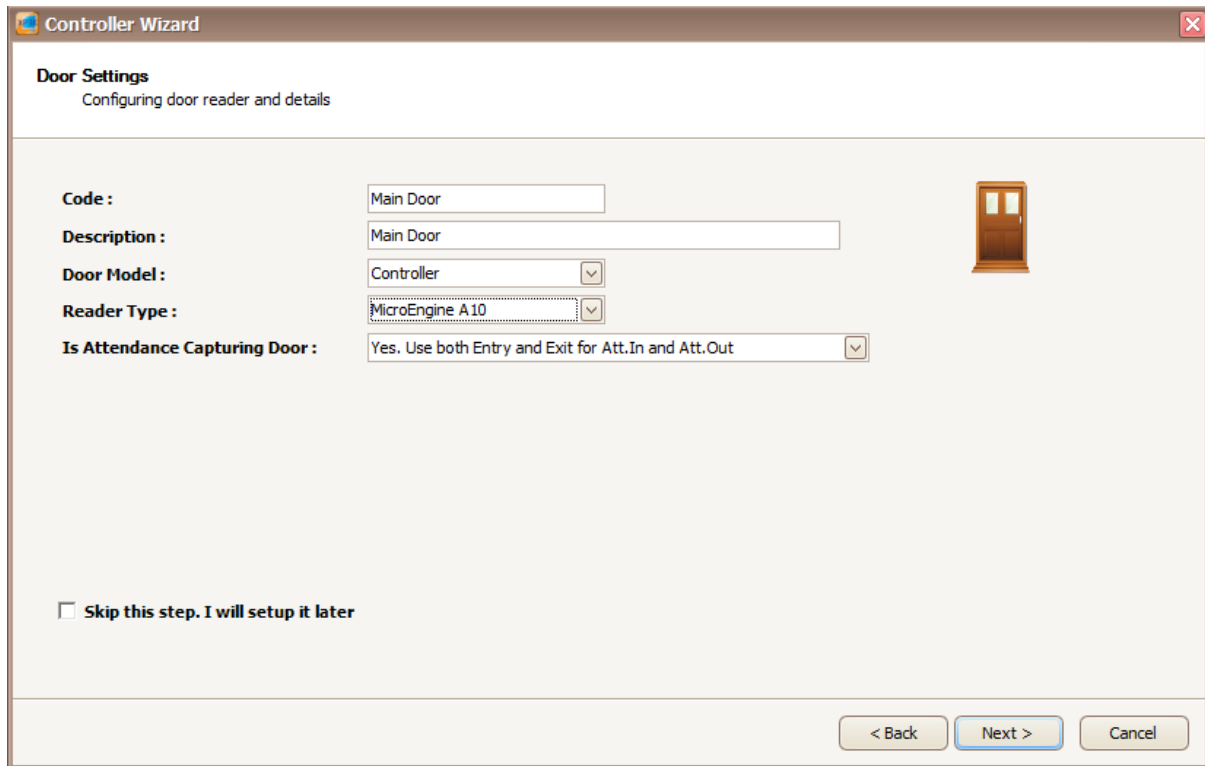

Figure 39 - Door Settings
14. The following screen will be shown (Refer **Figure 39**).